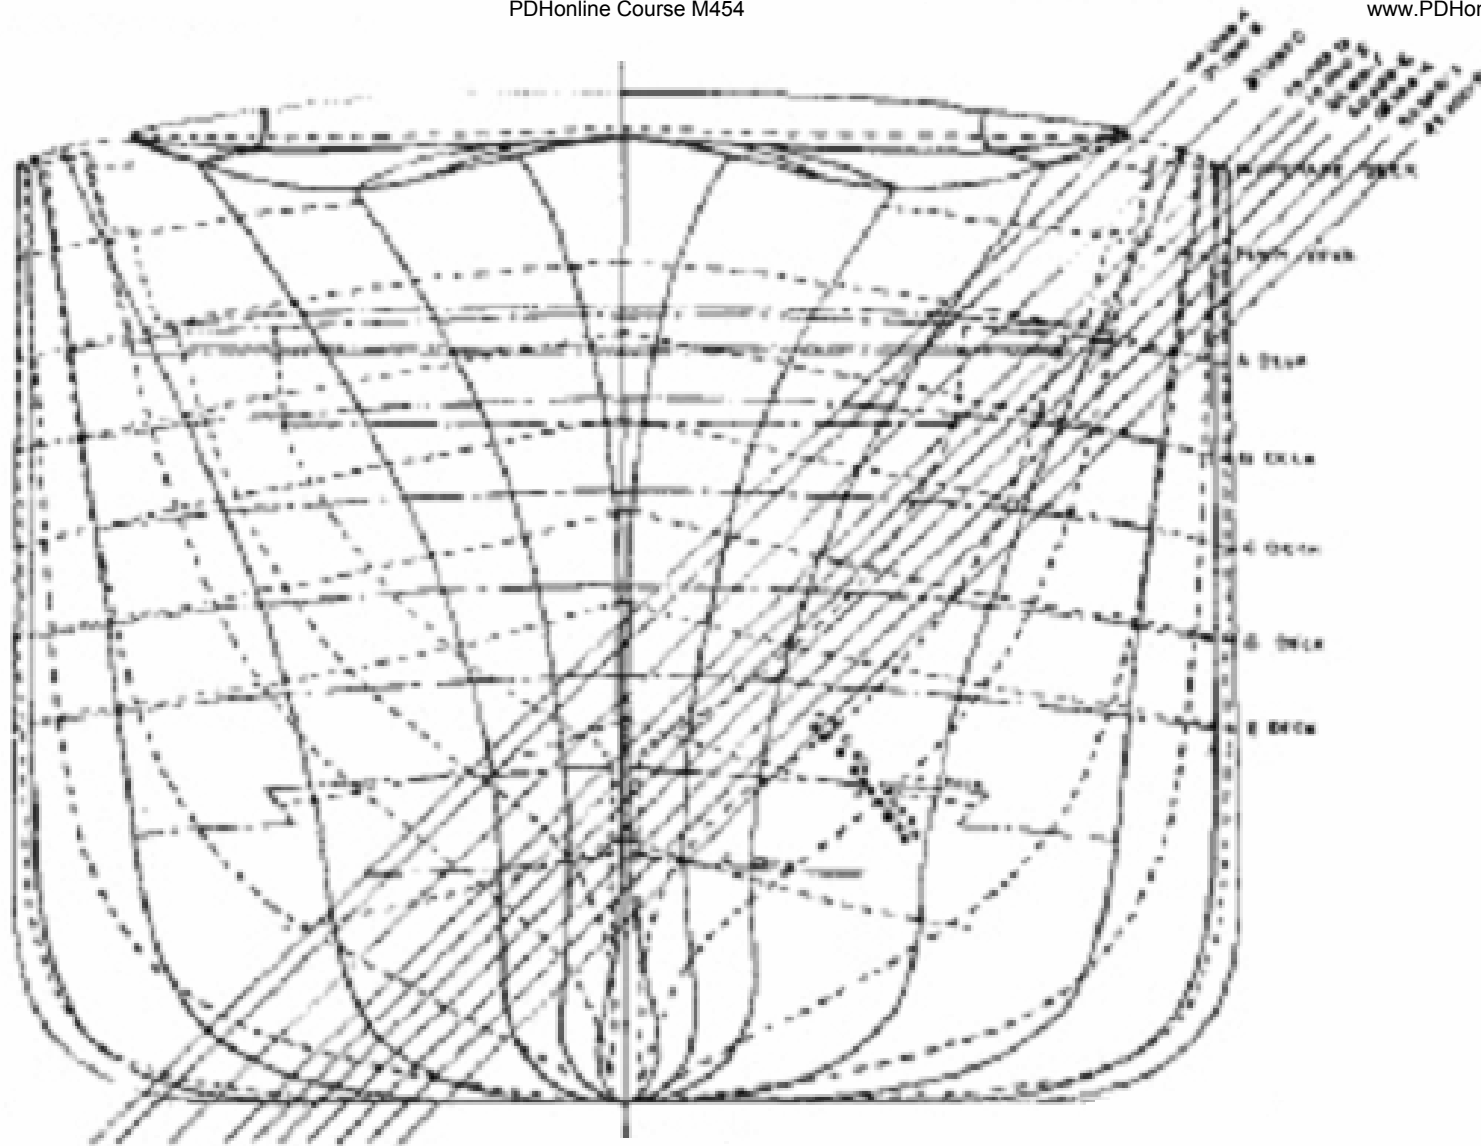

Figure 21
10. To obviate laborious repetition in making these studies, the centers of total buoyancy for various displacements at 79° were found and plotted on a body plan. The same was done for 70° , 60° , 45° , and 30° (see fig. 21). These centers of buoyancy for the various inclinations and displacements were then combined on a single drawing and the points connected with faired curves. From this drawing the center of total buoyancy at any desired displacement of inclination could be found.